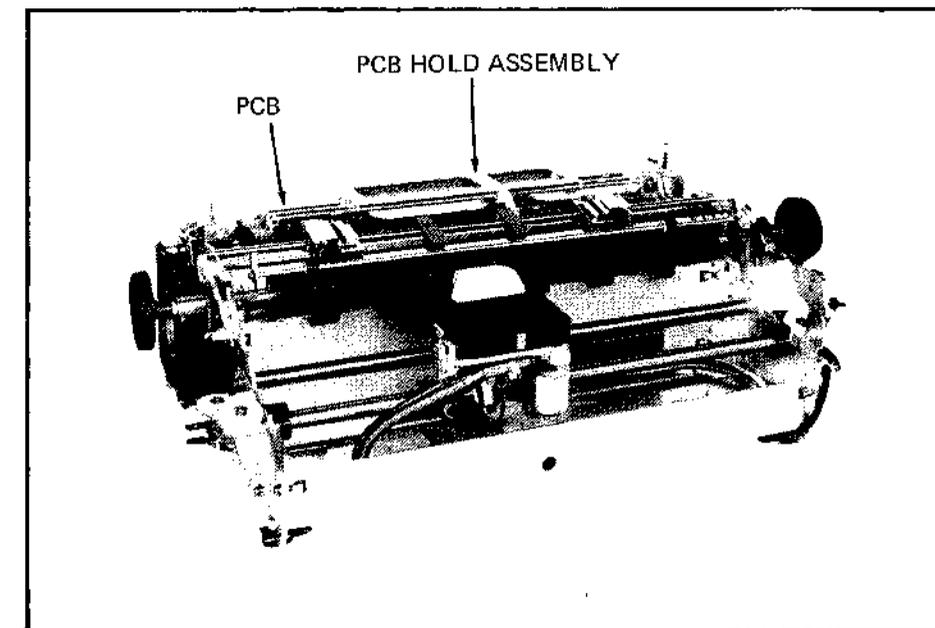

Figure 4-4 Circuit Board Assembly Location
- e. Disconnect the cable connector(s) attached to the PCB (Figure 4-4).